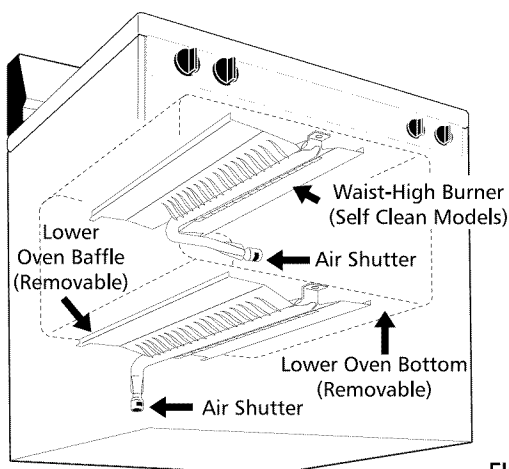

FIGURE 13
- Observe the flame to determine if the broiler burner flame is properly adjusted. It should be steady with approximately 1" blue cones and no yellow or orange flame tips (See Figure 13).